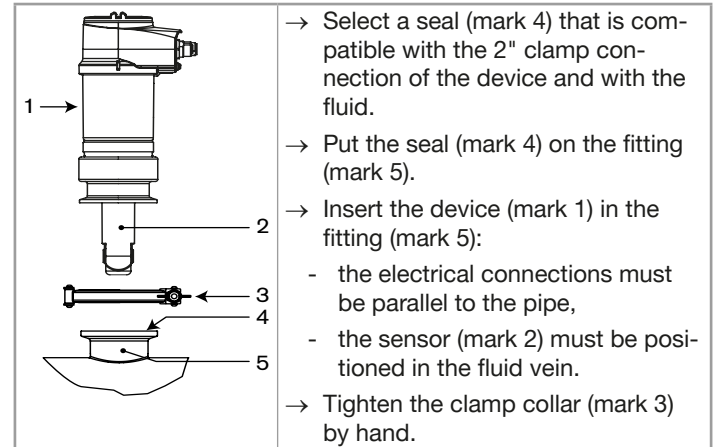

Fig. 7: Installation of a device variant with 2" clamp process connection in the pipe
- Mount the fitting on the pipe obeying the instructions of the Operating Instructions of the fitting used (not delivered). Fig. 7 shows an example for the fitting (mark 5)
→ Install the device in the fitting as shown in Fig. 7.